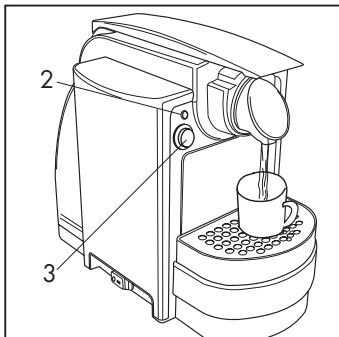

Fig. 7
To properly prepare an espresso, place the grid (5) at its highest position **(Fig. 7)**
When the lamp (2) is ON, the machine is ready for use. Press button (3); the machine will release water. Press button (3) again to stop, when the desired quantity of water has been dispensed. **(Fig. 7)**